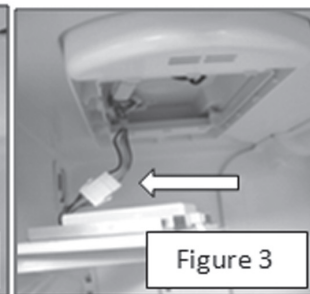

Figure 3
4. Drop down the LED assembly and disconnect the wiring harness, see figure 3.
The user interface display goes into hibernation (Sleep Mode) after 2 minutes if there is no activity. The first press of a control button or the display screen will reactivate the screen., see figure 3. Additional presses of the control buttons or display screen change the applicable settings.